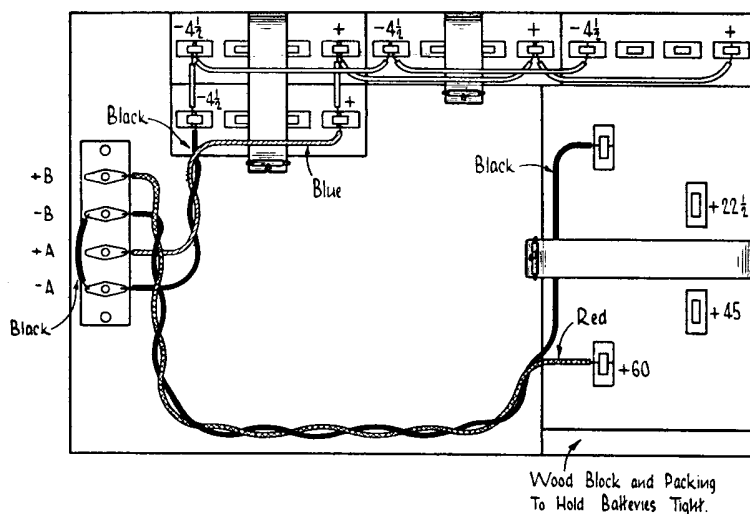

Fig. 55.—Installation and Connection of Batteries.
5. Assemble the batteries in the back of the case. See that they are held firmly with the straps provided. See diagram Fig. 55.
7. Connect the batteries according to the diagram Fig. 55.